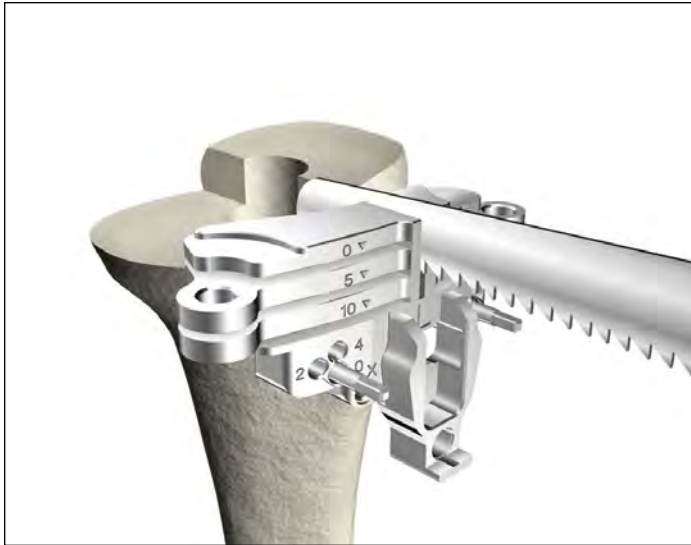

Figure 11
- Using a reciprocating saw blade through the Revision Tibial Resection Guide, complete the sagittal augment resection (**Figure 11**).